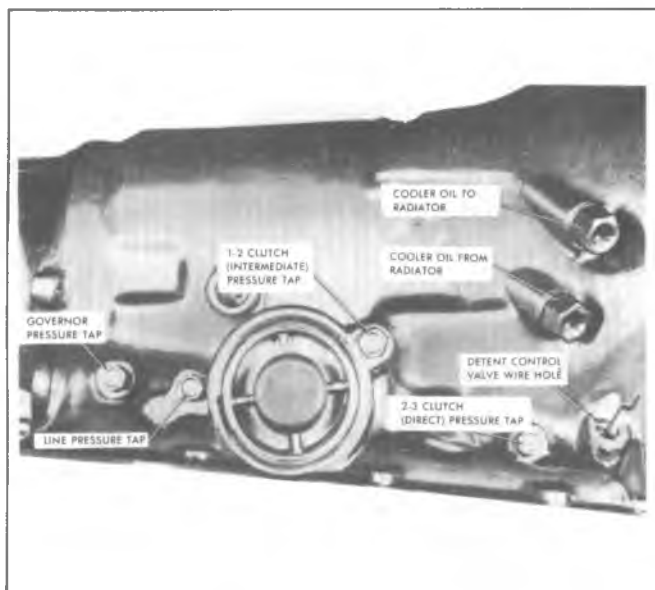

Fig. 7A-10--Pressure Tap Locations
1. Install line Pressure Gage, to tap location shown in Fig. 7A-10.